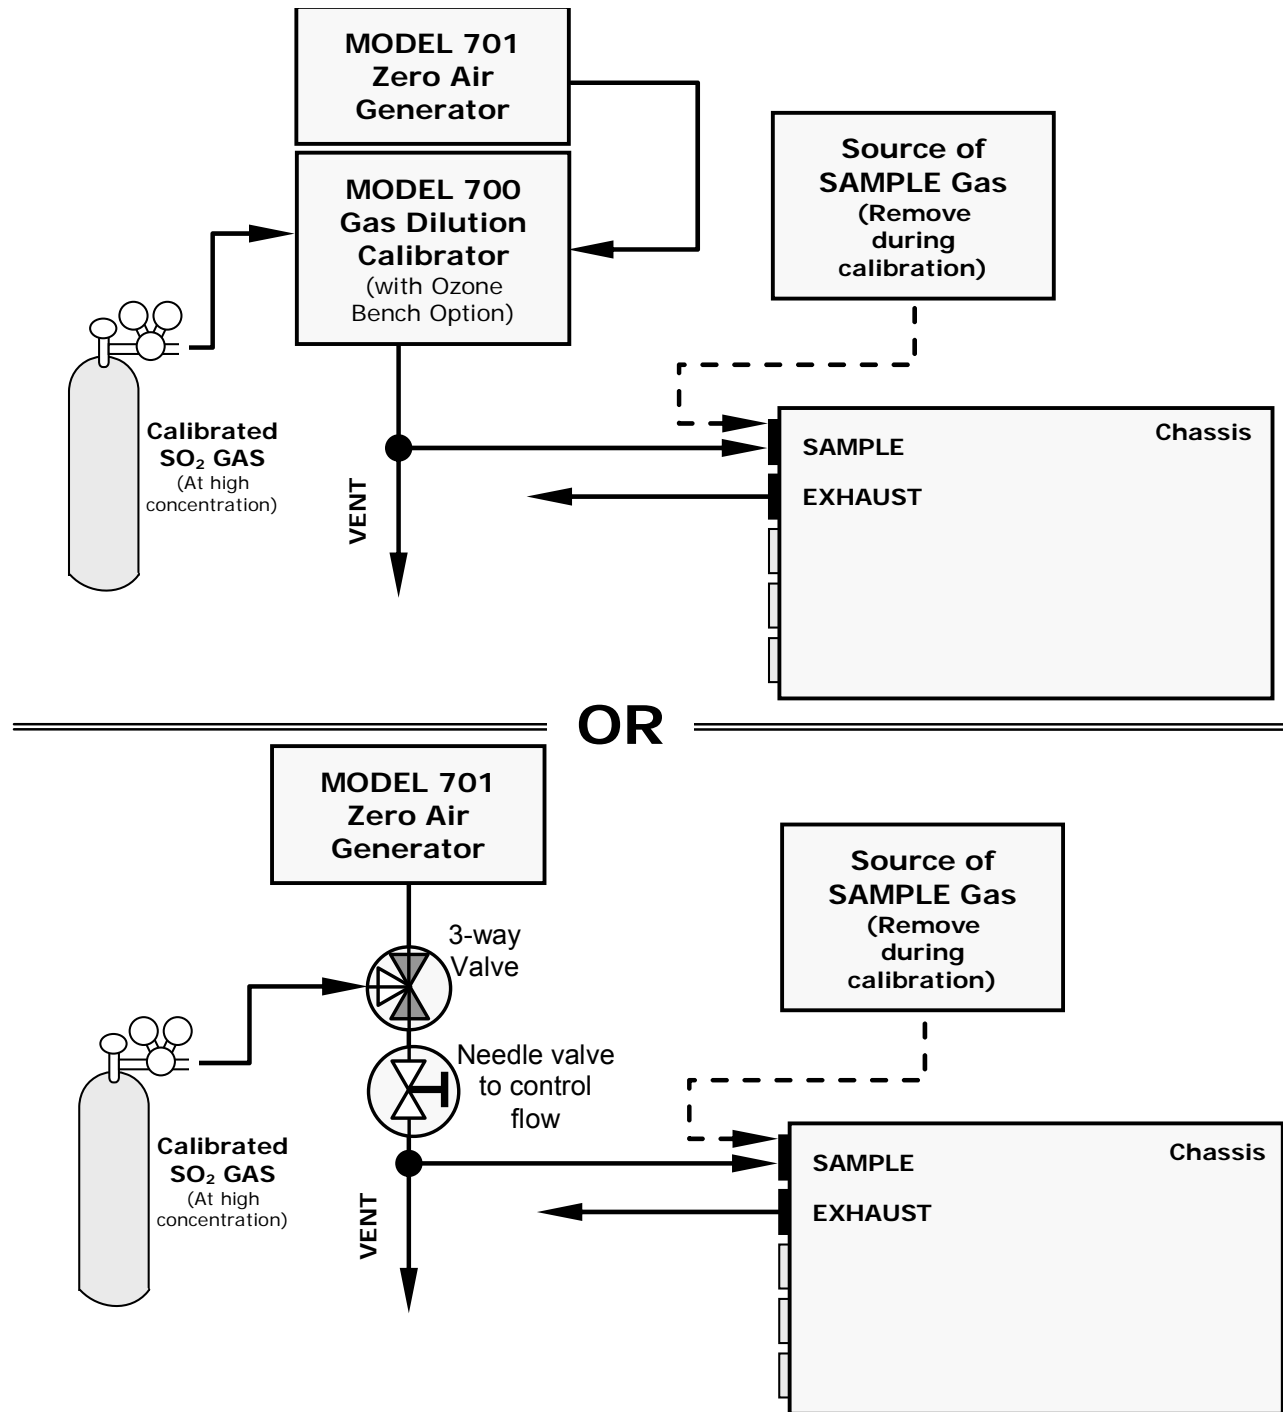

Figure 9-1: Setup for Manual Calibration without Z/S valve or IZS Option (Step 1)
STEP ONE: Connect the sources of zero air and span gas as shown in Figure 9-1.
- Zero air and span gas must be supplied to the analyzer through the sample gas inlet as depicted in Figure 9-1 of Section 9.2.